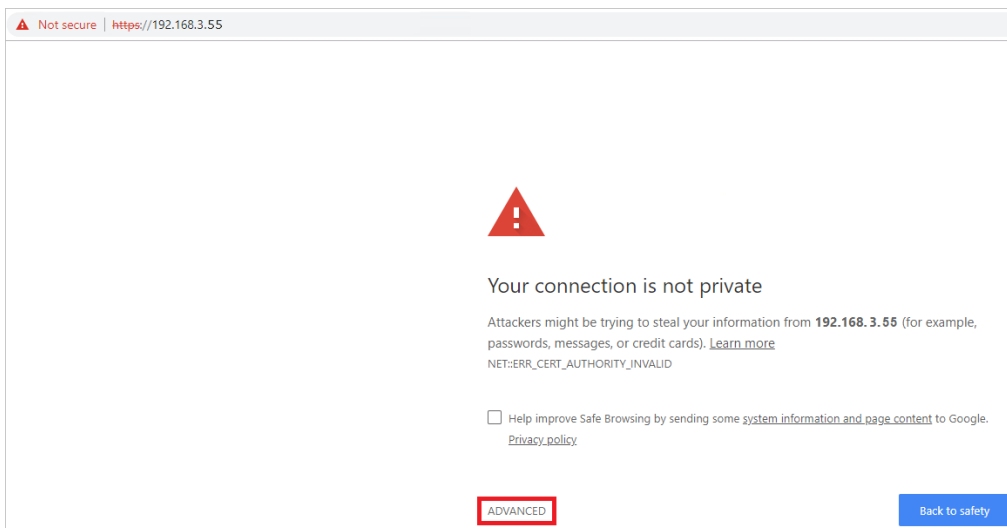

Figure 38
5. Click 'Advanced' at the bottom of the screen shown in Figure 38.